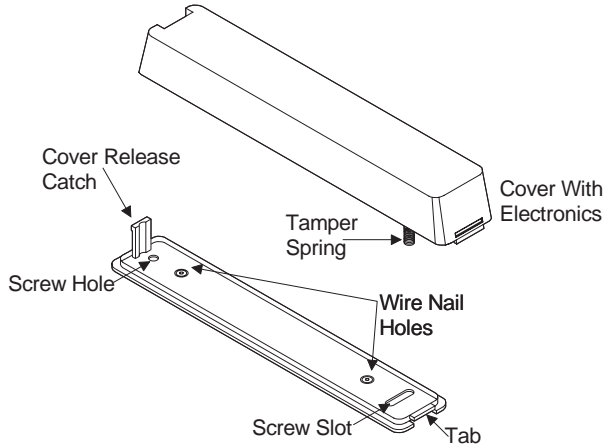

Figure 2. Sensor Mounting Holes/Tamper Spring
- Mount the sensor base. Two screw holes are provided, one is enlarged to allow for sensor alignment. Use #6 pan head screws when mounting the sensor. Two small additional holes are provided for mounting the sensor with #18 x 1/2 in. wire nails (brads) and a brad driver (see Figure 2).